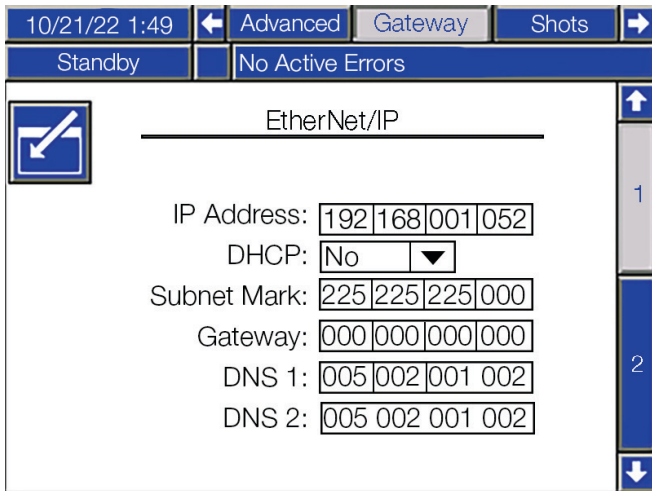

FIG. 52 EtherNet/IP Fieldbus Screen 1
2. Press the left arrow key once to navigate to the main gateway screen. See Fig. 52.
This screen enables the user to set the IP address, DHCP settings, subnet mask, gateway, and DNS information. See FIG. 52.